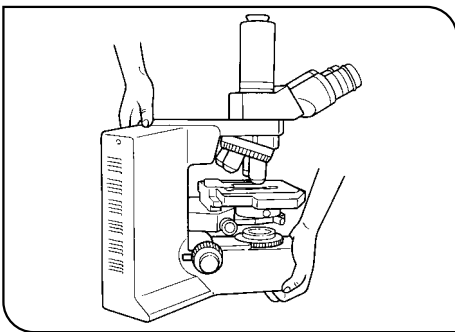

Fig. 2
3. When moving the microscope, carefully carry it with the grasping part on the rear of the arm and the base as shown in Fig. 2 (Weight: approx. 16 kg).